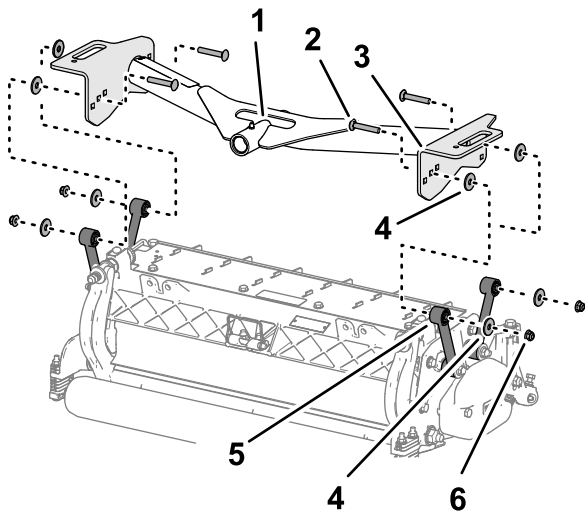

Figure 17
1. Align the holes in the plates of the front-carrier frame with the holes in the cutting unit mounting plates (Figure 17).
- Align a washer between the carrier plate and link (Figure 17), and loosely assemble the plates and spacer with a carriage bolt (3/8 x 2-1/4 inches), washer, and flange locknut (3/8 inch).